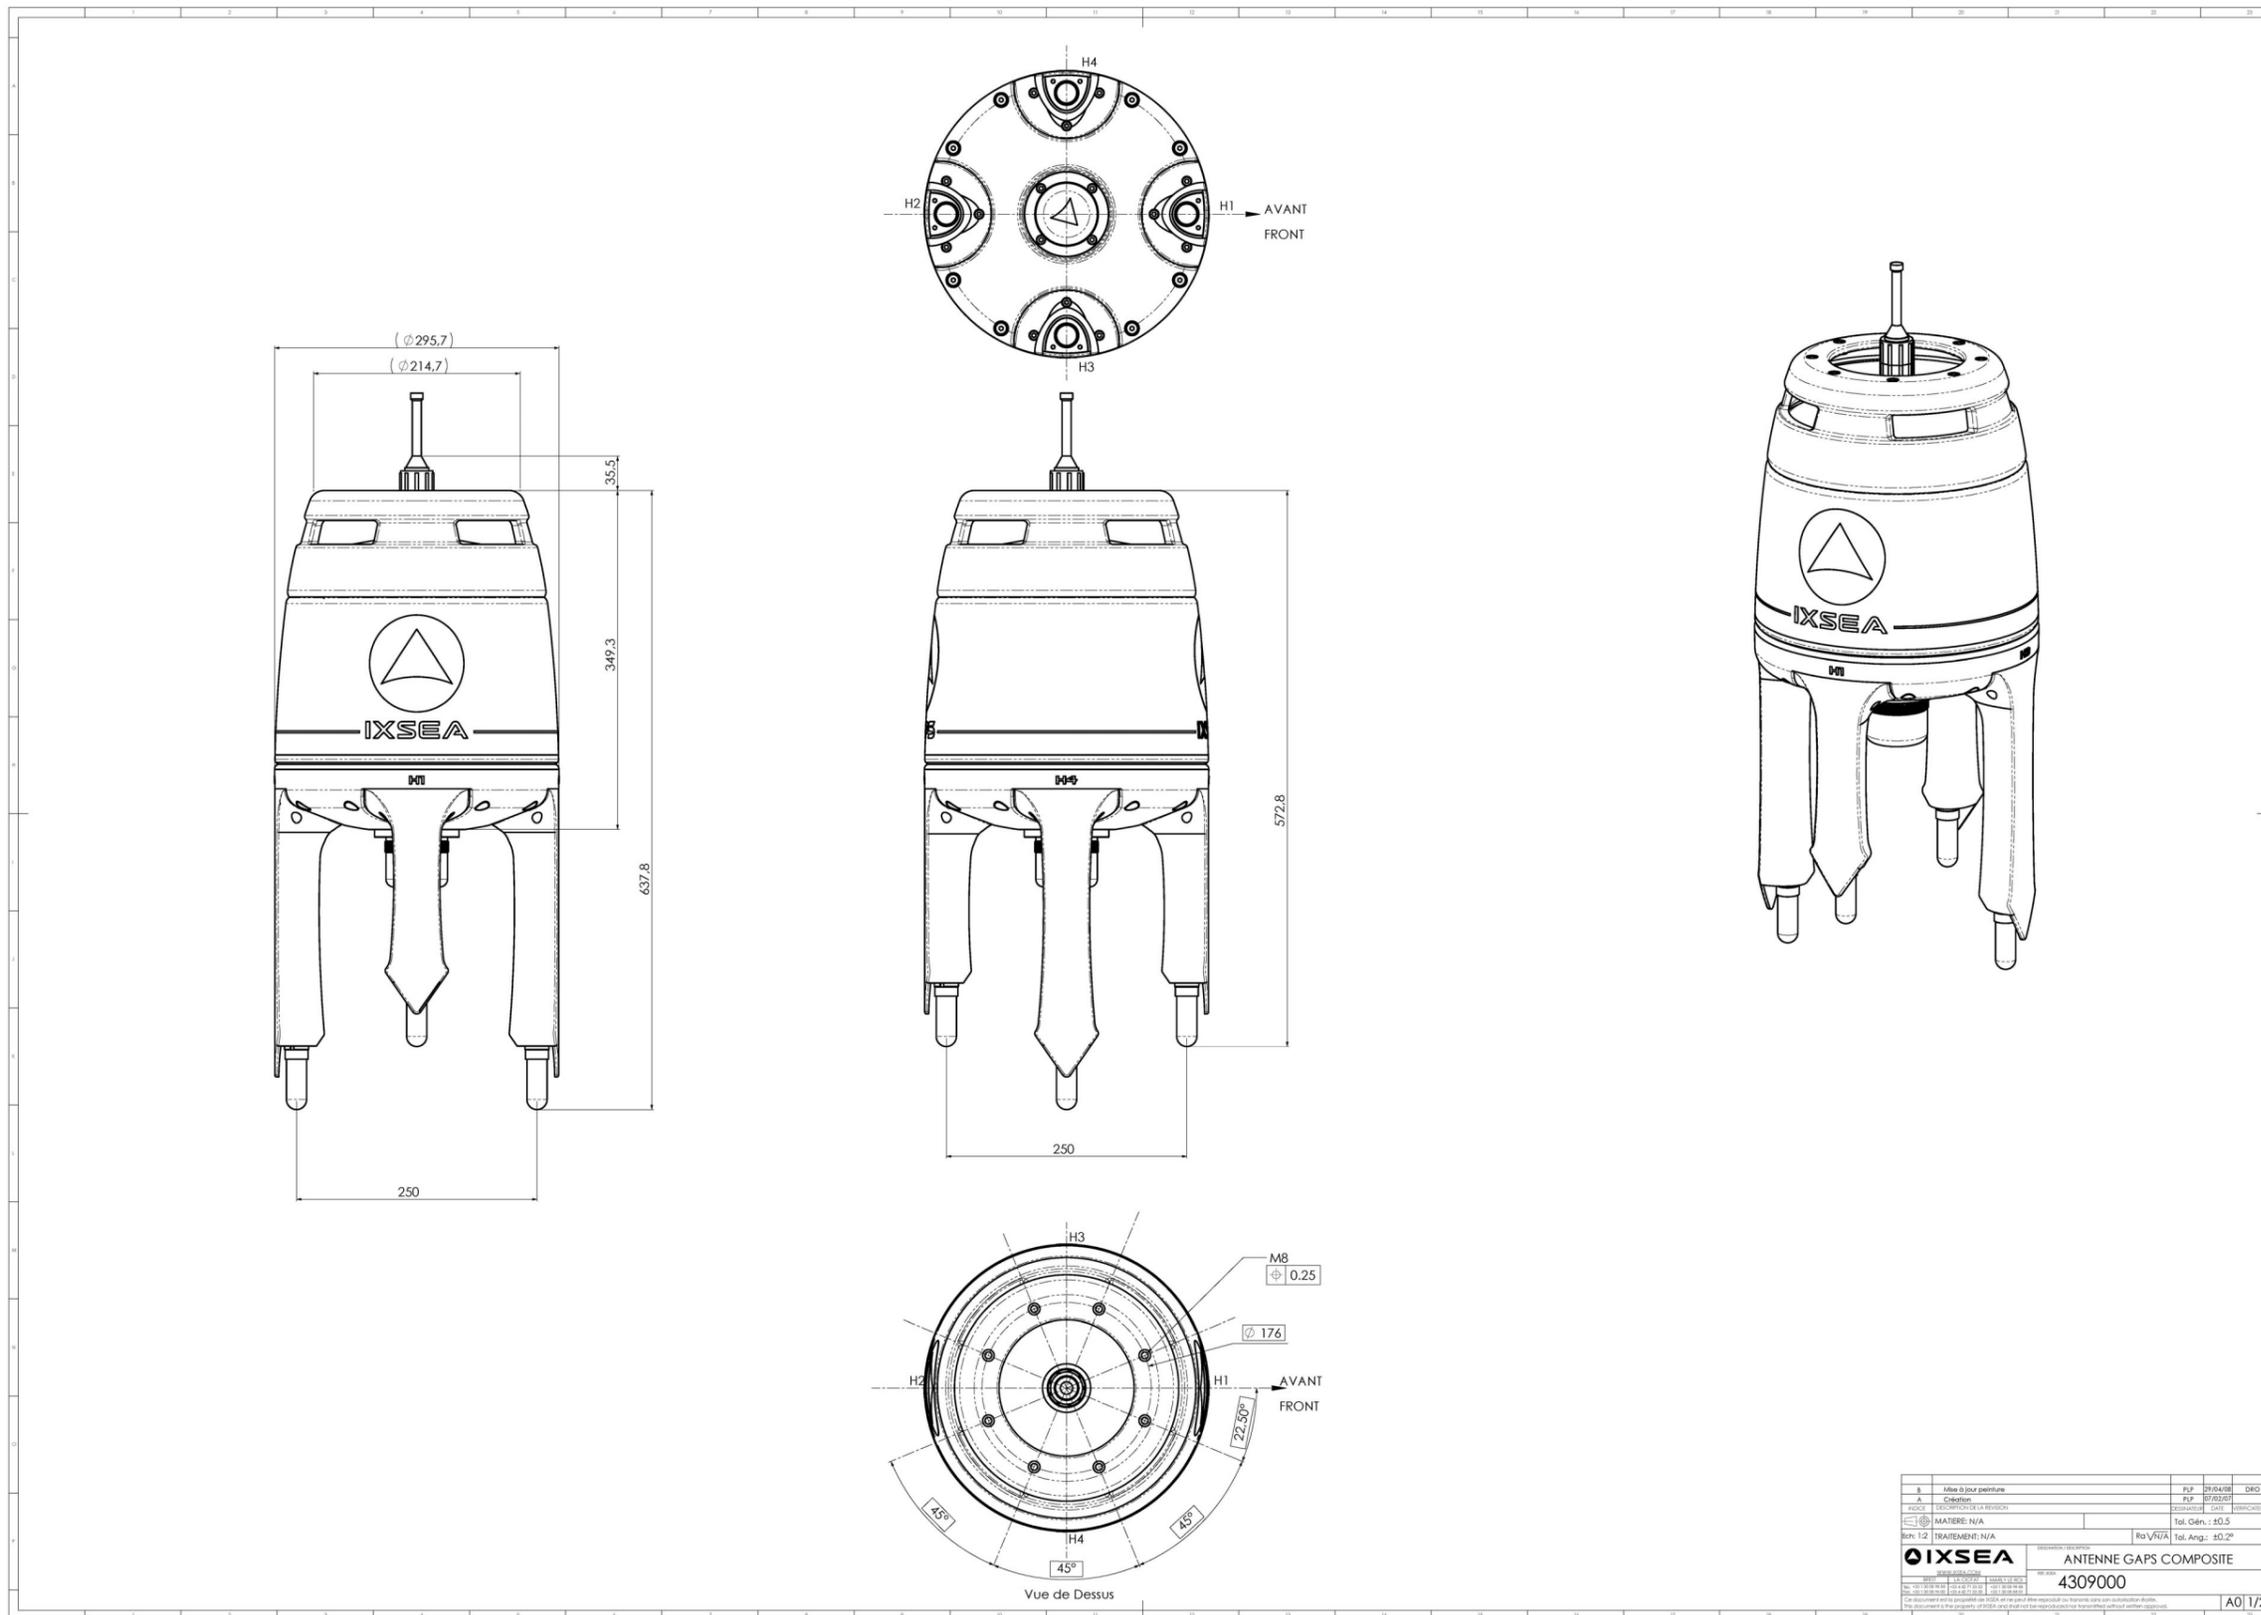

Figure 17 – GAPS Mechanical Plan
**Mechanical Plans** The mechanical plan of the antenna is displayed on Figure 17.